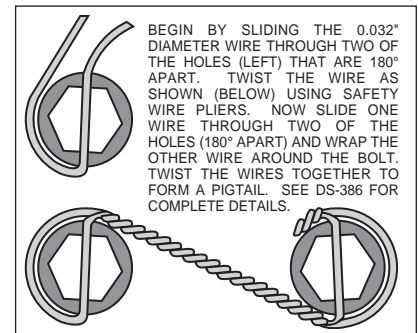
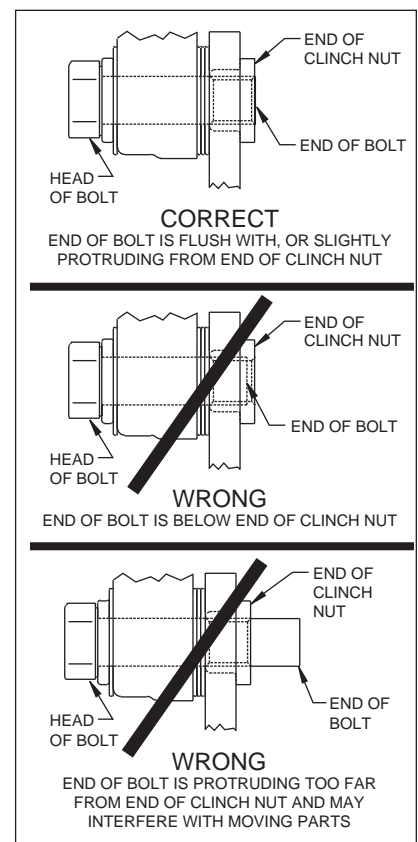

Figure 4. Safety Wire Diagram
Figure 5. Clinch Nut Engagement Diagram
Assembly Instructions (numbers in parenthesis refer to the part list/diagram on the preceding page): **CAUTION:** All mounting bolts must fully engage insert nuts. Be sure to check that all bolts are either flush or protruding through flanged side of insert nut after shimming, Figure 5.
- The rotor (3) has two sides. A flat side and an inset side. Bolt hat (2) to flat side of rotor (3) using bolts (5). Using an alternating sequence, apply red *Loctite*® 271 to the threads and torque bolts (5) to 25 ft-lb. Safety wire bolts using standard 0.032 inch diameter stainless steel safety wire as shown in Figure 4. Please refer to Wilwood's data sheet DS-386 (available at www.wilwood.com/Pdf/DataSheets/ds386.pdf) for complete safety wire installation instructions.
- Align the correct hole pattern in the hat (2) with the stud pattern on the axle flange. **NOTE:** Some OEM and after market axles come with stud sizes larger than 0.50" diameter. Verify stud size and have a qualified machine shop drill the hats to the correct size. Slide the hat/rotor assembly (2 and 3) over the wheel studs and against the axle flange face.
- NOTE:** Please reference the caution statement at the beginning of the assembly instructions. Mount the caliper (6) over the rotor (3) and onto the caliper mounting bracket (1) using washers (7) and mounting bolts (8). View the rotor through the top opening of the caliper. The rotor should be aligned in the center of the caliper. If not, adjust the caliper by using 0.032 inch shims (9) by placing them between the caliper mounting bracket (1) and the caliper (6). Add as many shim washers (9) as necessary to achieve the correct alignment. **NOTE:** The end of the bolt must be flush with or slightly protruding from the head of the clinch nut. See Figure 5. Place spare shims (9) between washer and caliper mounting ear to achieve the proper mounting fastener configuration. Always use the same amount of shims on both the top and bottom caliper mounting bolts (8). Apply red *Loctite*® 271 to the mounting bolt threads (8), torque to 40 ft-lb. Caliper mount bolts may be safety wired for additional security.
- Position the Wilwood disc brake pads (10) into the caliper (6) and fasten with cotter pin (4). Steel backing plate side of brake pad should face the caliper pistons.